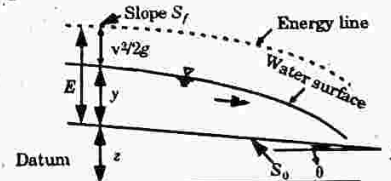

Fig. 2.7.1. Schematic sketch of GVF.
2. Schematic diagram of a gradually varied flow is shown in Fig. 2.7.1.